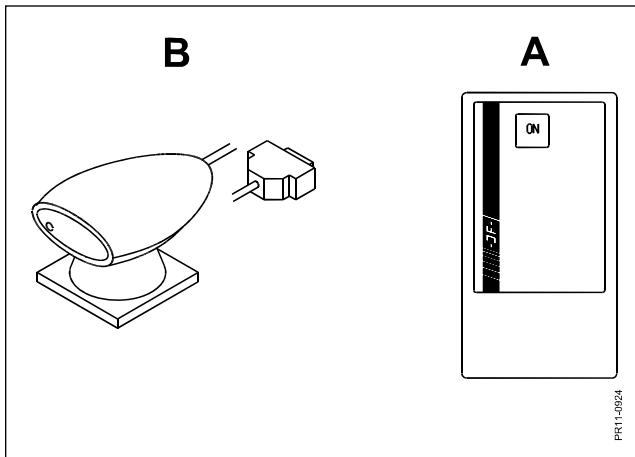

Fig. 7.6
Fig. 7.6 This menu point makes it possible to send data to PROFEED or receive data from PROFEED. A condition is that you have got an infrared hand terminal (A) and a receiver/transmitter (B), which must be connected to the PC to be communicated with. The equipment makes it possible to transfer non-existing foodstuffs to the Profeed system. Regarding Ordering Numbers: see spare parts list.